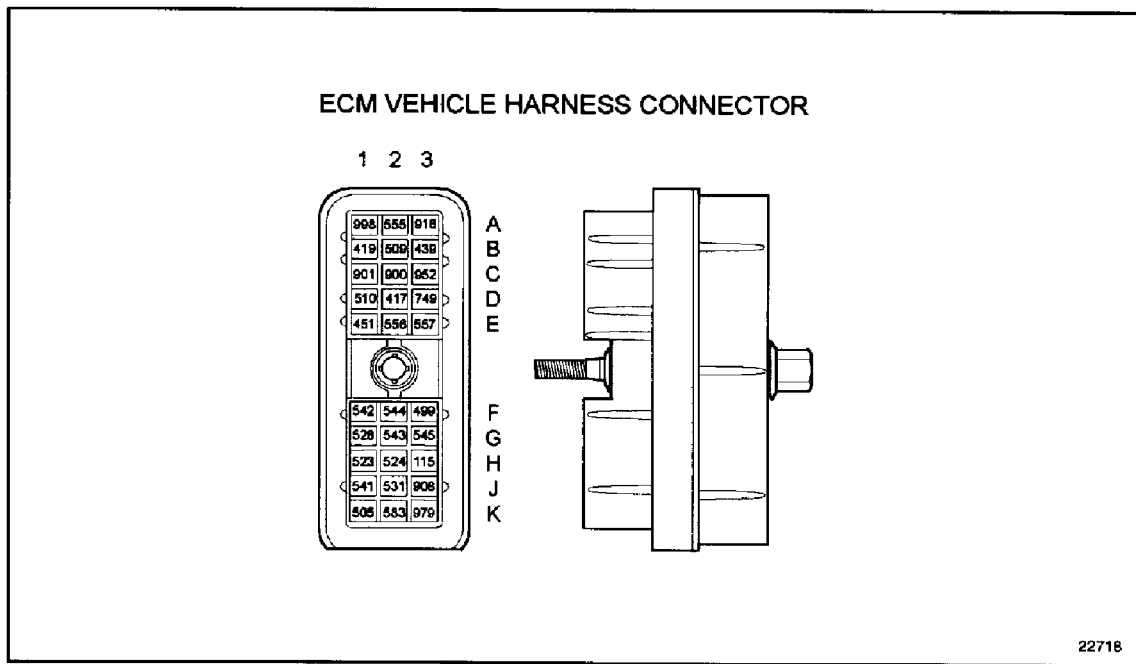

Figure 54-2 ECM Vehicle Harness Connector
3. Measure resistance between sockets E2 and E3 on the ECM vehicle harness connector. See Figure 54-2.